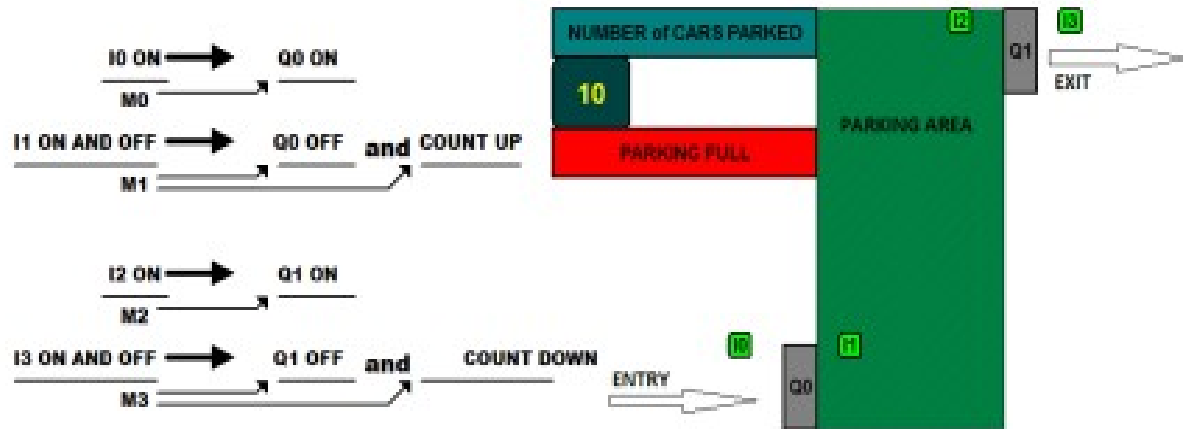

Figure Q1d
- d) **Figure Q1d** is a car parking area where the entry is gate Q0 and exit gate Q1. On entry there are two sensors, I0 outside and I1 inside. On exit also there are two sensors I2 and I3. When car comes in front of I0 sensor, gate Q0 is open. When car reaches to I1 sensor, nothing will happen. When car crosses sensor I1 then gate Q0 will be closed and it would be count up. Inside parking area when car reaches to sensor I2, exit gate Q1 is open. When car crosses I3 sensor then Q1 is closed and it would be count down on display to show the present number of cars inside parking area. Maximum 10 cars will be parked. When parking is full and 11th car comes in front of entry I0, entry gate should not get open. Devise a ladder diagram for the parking.